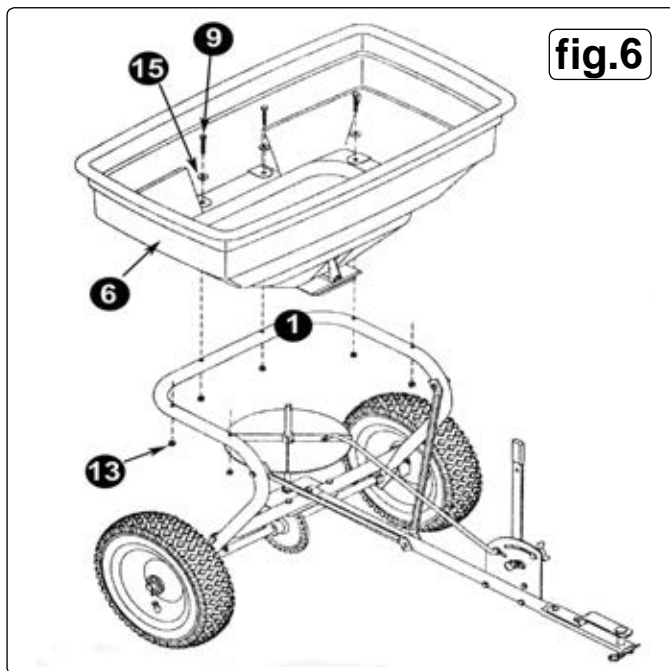

fig.6
- 4.10. Align the six bolt holes in the hopper assembly with the six bolt holes on the frame tube assembly and fit the Hex Bolts M6x40 (9) with the big flat washers M6 (15) at the bolt heads. Loosely attach the M6 lock nuts (13) as shown in figure 6. Adjust the hopper assembly over the frame tube assembly until the impeller is free to rotate without any resistance. Fully tighten the nuts and bolts securing the hopper assembly to the frame tube assembly.